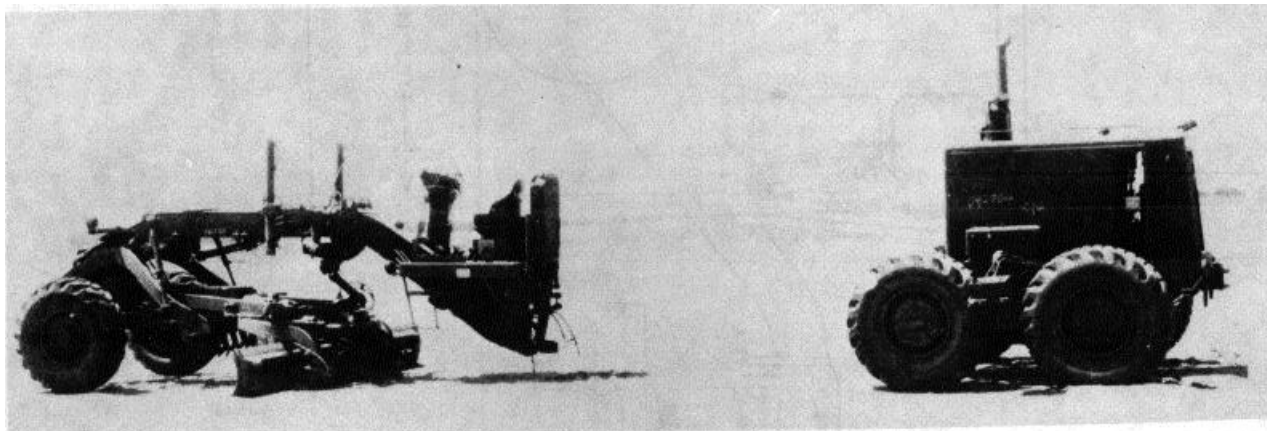

Figure 2-3. Model 130G Type II (sectionalized) grader.
d. The model 130G Type II (sectionalized) grader (fig 2-3) has the same modifications as the Type I grader. Also, the Type II grader can be sectionalized into two halves for airmobile operations. Each half can be externally lifted by the CH-47 or larger helicopter. After both halves have been lifted, the rear half can be driven for a short distance from a ground position to rejoin the front half.